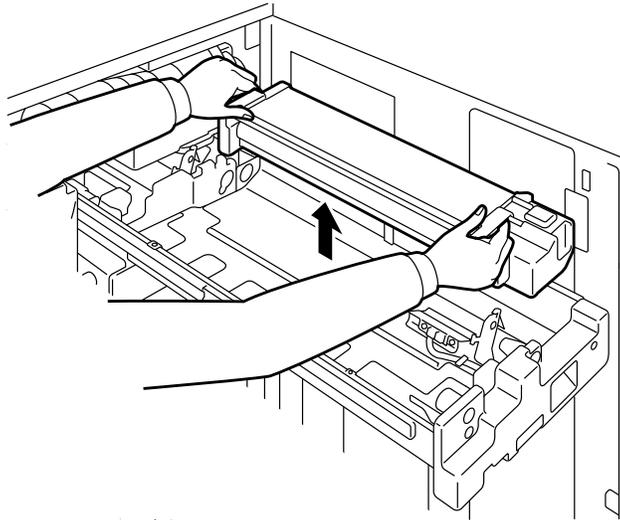

Figure 5-7
5. Remove the Developer Unit from the EP Drawer as shown in Figure 5-7.